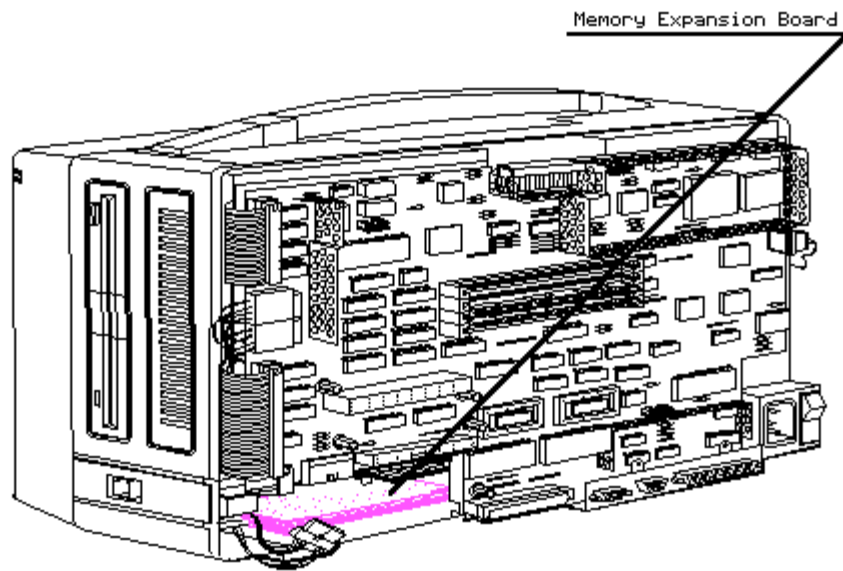

Figure 8-23. Memory Expansion Board Location
5. Locate the memory expansion board shown in Figure 8-23.